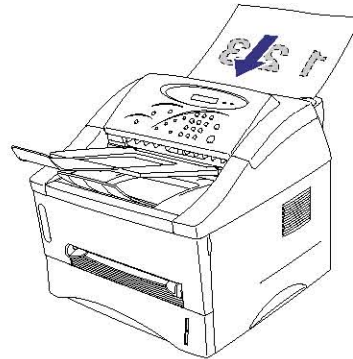

Fig. 2-25
- (1) Set the width of the document feeder paper guides using both hands to the paper width to be used.
- (2) Insert the original document face down in the document feeder. (Fig. 2-25)